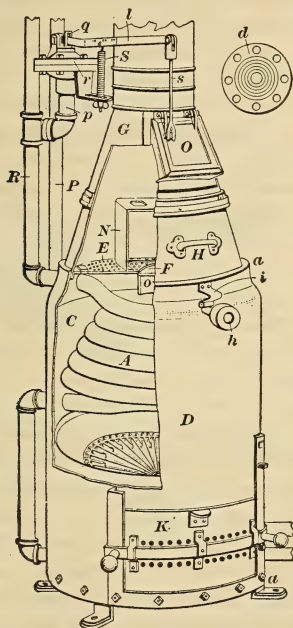
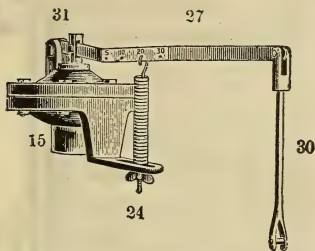

FIG. 4. IMPROVED FIRE-PROOF HEATER.
FIG. 5. AUTOMATIC REGULATOR AND PRESSURE INDICATOR.
There is a fire-safe consisting of an outside shell or casing made of a flexible grade of steel, without joint or seam. See Figure 4. D is the fire-safe; the depth of the casing or shell is indicated from a to a. On the inside of the shell are sheets of asbestos and next to these layers of asbestos is a sheet-iron casing C, enclosing the coil A; the space between casing C and coil A serves as an air space for the hot gases from the fire, and the space inside the coil A serves as a fire chamber. The fire is accordingly within four casings: (1) A water casing consisting of the closely wound coil A filled with water; (2) a casing of sheet-iron; (3) a casing of asbestos layers; and (4) an outer casing of steel plate.
The smoke screen N is a cone shape casting, as shown in Figure 4 for feeding the coal in at the front, the opening being just behind the feed-door. The coal goes down through the bottom of the casting, thence through the coal feed-chute o into the fire. Safety plate F, which is controlled by the hand lever h (the latter being held in place by the spring i), closes the hole in the bottom of the screen N, the top of which has small holes as shown, for the smoke to pass through.
The fire-proof heaters just described have an automatic arrangement for regulating the fire according to the pressure in the heater and the temperature in the radiating pipes. It is in effect a draft regulator, as shown by the letter *r* in Figure 4. It is also shown in detail in Figure 5. It will be seen that a pipe indicated by *p* leaves the riser *R* at the point shown and runs into the regulator
To test for the amount of water in the drum and piping the fire should be low and no pressure in the heater. The height of the water in the drum should be noted by means of the combination cock C, Figure 5. If the water is at the right height it will run out of the drip pipe when the cock C is opened. To renew water when necessary to do so, it should be put in through the filling funnel f, which is attached to the cock C. When through the cock should be closed and the funnel turned down.